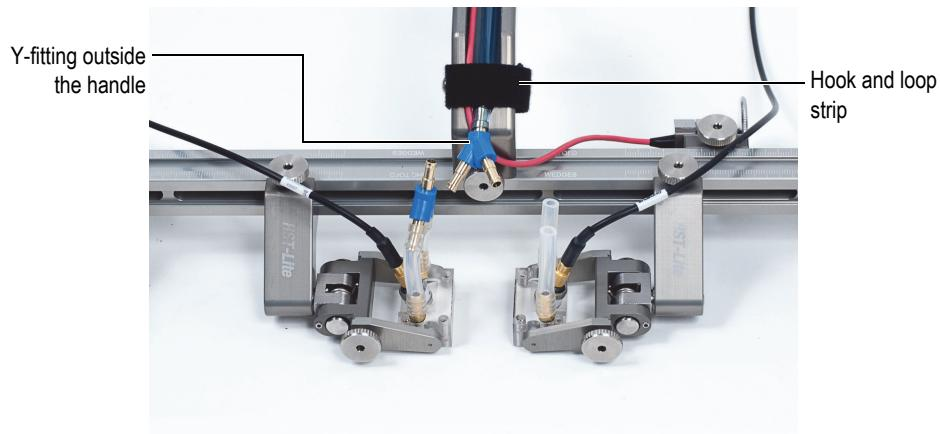

Figure 1-13 Securing the irrigation tube
8. Install the irrigation tube in the scanner handle, and then temporarily secure the irrigation tube using the hook and loop strips (see Figure 1-13 on page 28).
Make sure the Y-fitting of the irrigation tube is outside the handle (see Figure 1-13 on page 28).